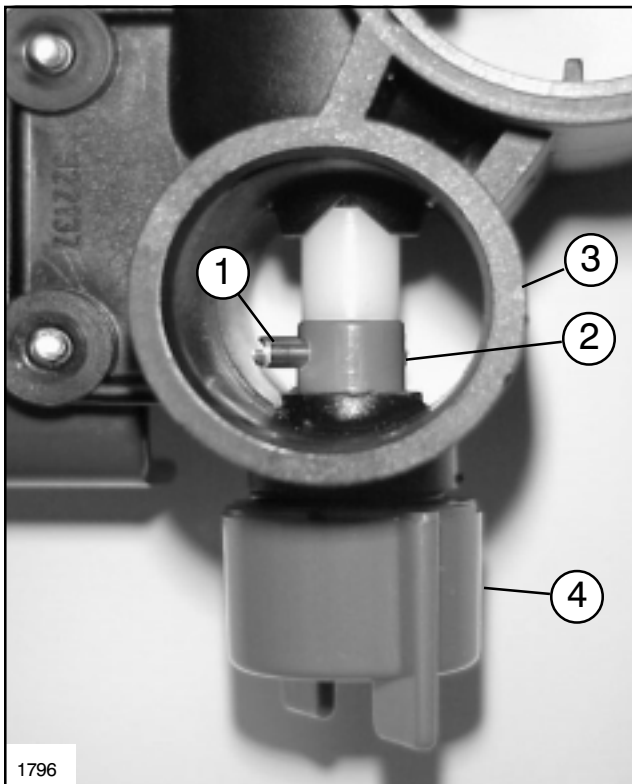

FIG. 5
3. Remove Roll Pin securing the Boom Bypass Valve to the Distribution Valve Assembly. See FIG. 5)